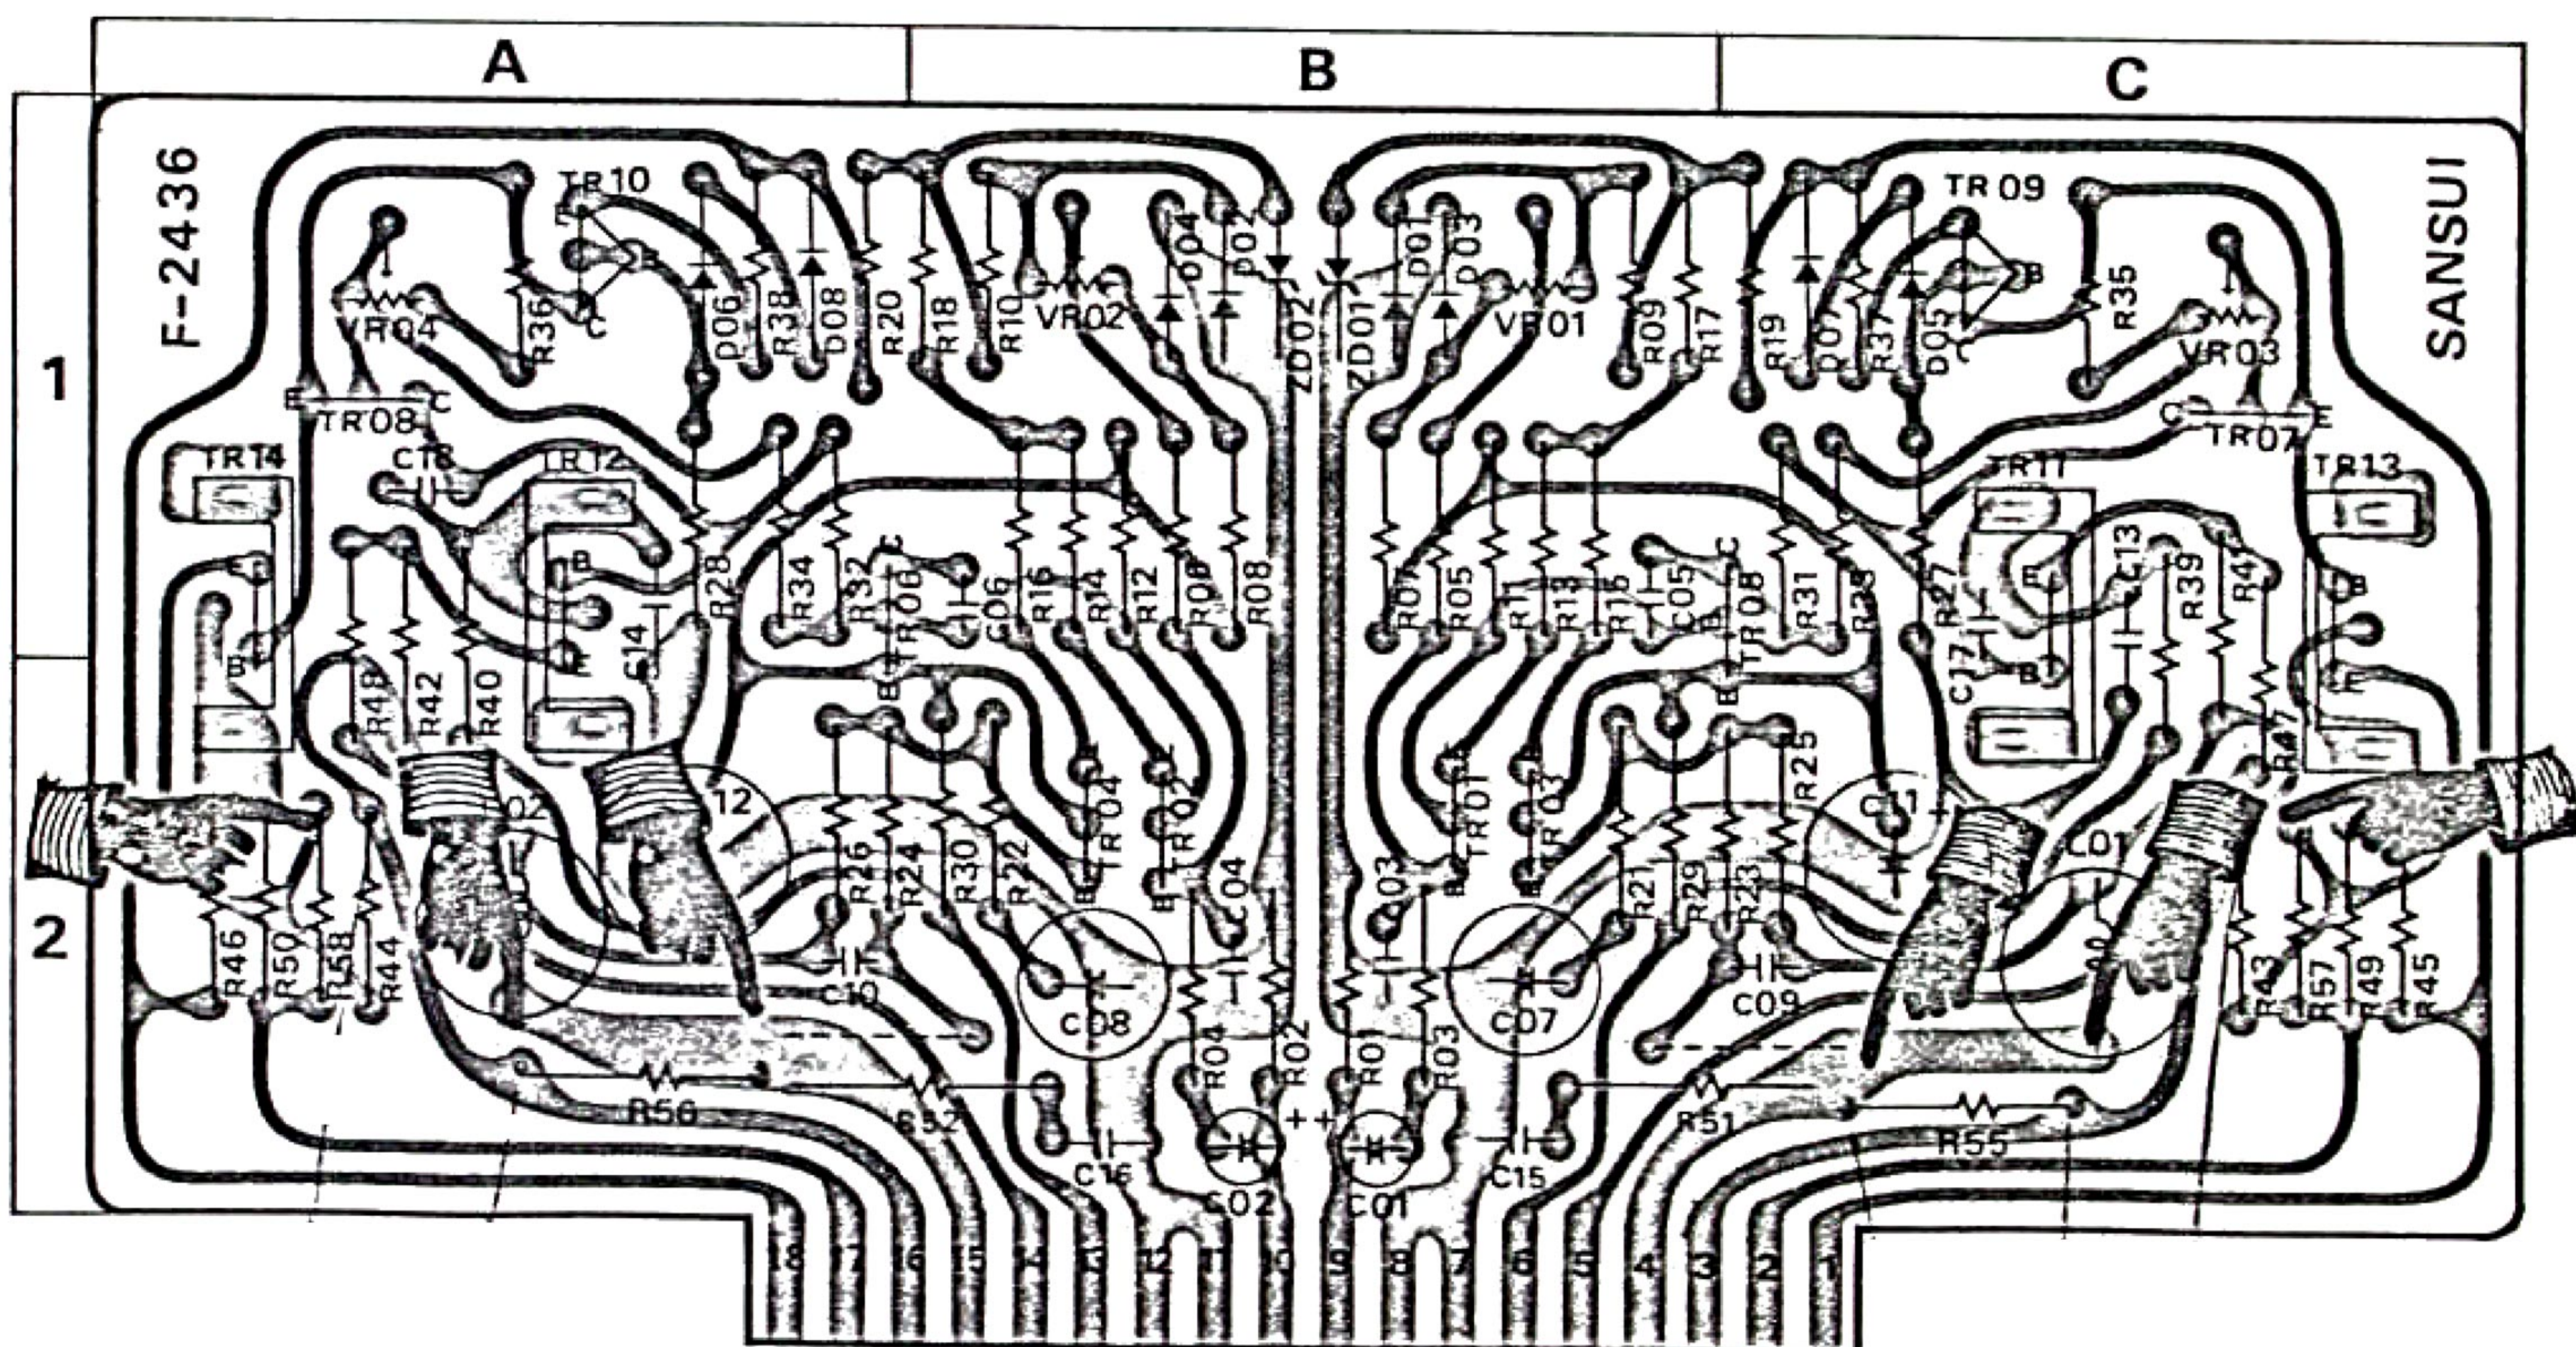

FIG. 3
- Connect one wired-in fuse from point M on P.C.B. F-2436-1 (See fig. 3) to point N or to point O, depending upon the position of resistor R44.
- Connect one wired-in fuse from point P on P.C.B. F-2436-1 (See Fig. 3) to point Q or to point R, depending upon the position of resistor R43.